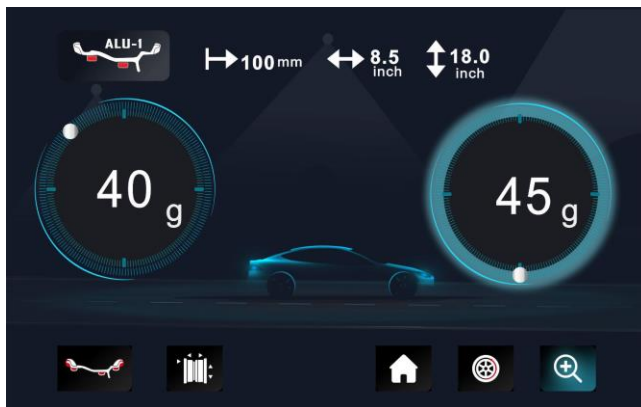

Fig. 6
4.2.5. Press  until the right LED fully lights up, indicating the correct angular position on where to mount the counterweights.. Clip weight on the 6 o'clock position (Fig. 6)